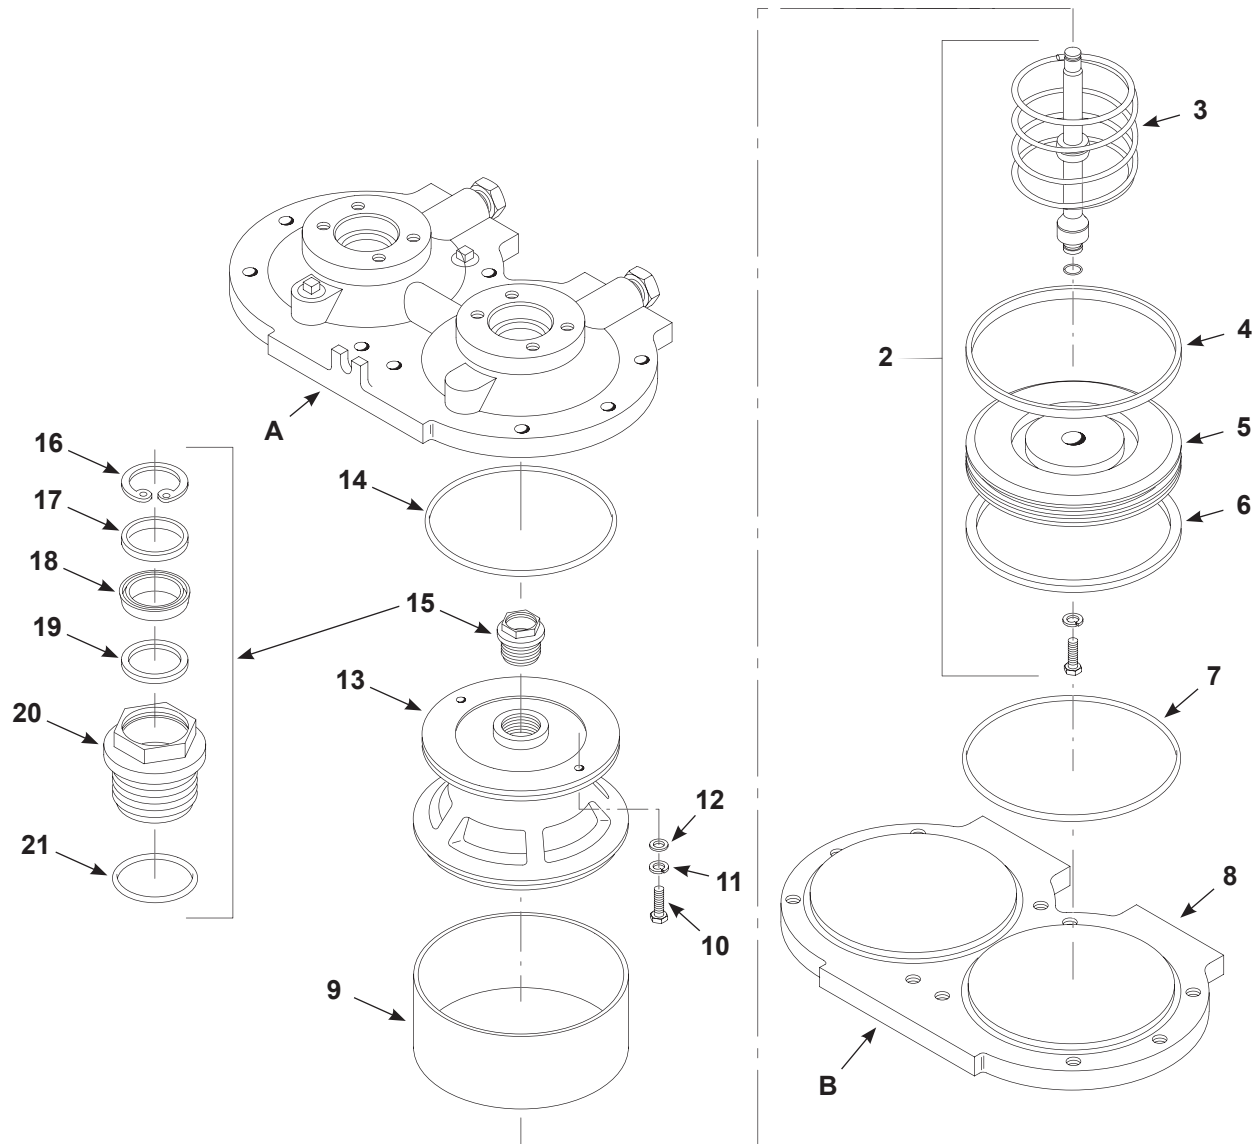

Figure 6-7 Air Motor Disassembly
7. See Figure 6-7. Remove the upper head (8), air motor springs (3), air cylinders (9), and piston assemblies (2).
8. Remove the screws, flat washers, and nylon washers (10, 11, 12) that secure the lower heads (13) to the solvent chamber (1).
9. Remove the solvent seal packing glands (15) from the lower heads.
See Figure 6-7. Lay the pump on its side with surfaces A and B flat against a horizontal plane during assembly. This will help you to properly align the upper head with the solvent chamber.